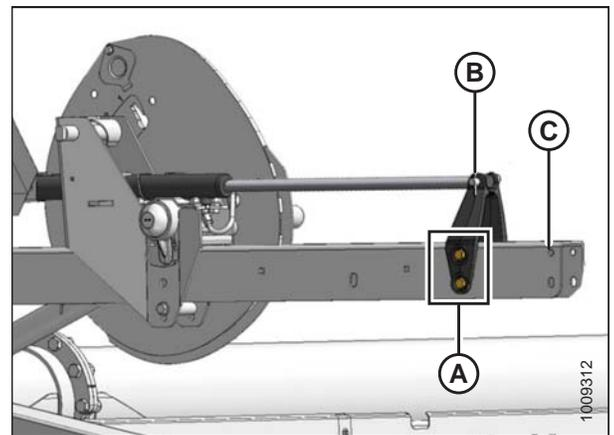

Figure 3.75: Rearward Position
- Rearward position, refer to Figure 3.75, page 85
3. Reinstall the four bolts (A) to secure bracket to reel arm at new position.